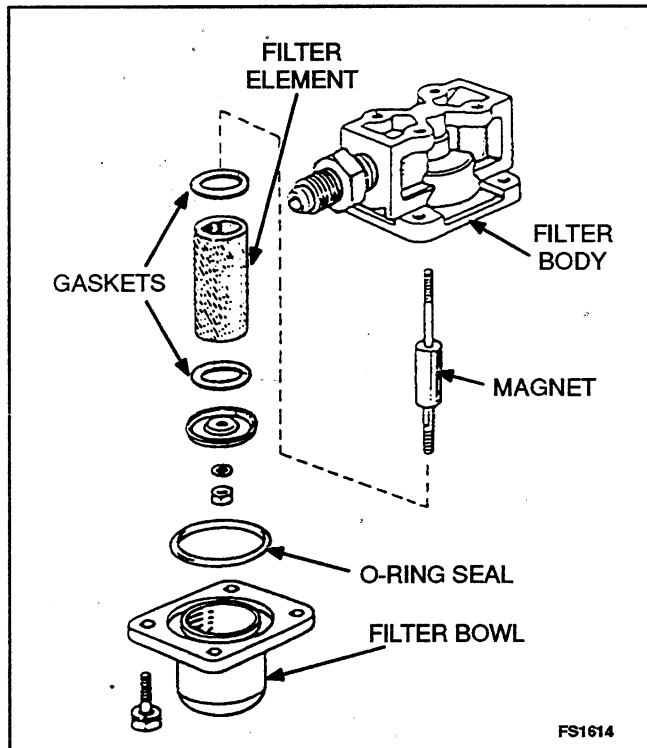

FIGURE 4-6. LIQUID LPG FUEL FILTER
The LPG fuel filter (Figure 4-6) removes solid impurities from the LP gas, before they reach the regulator and carburetor. A magnet in the filter housing attracts iron and rust particles, and a filter element traps other particles. The fuel filter operates at fuel tank pressure, so it must be reassembled carefully after cleaning, to avoid leakage.
1. Remove the four capscrews and lock washers that hold the filter bowl to the filter body. See Figure 4-6.